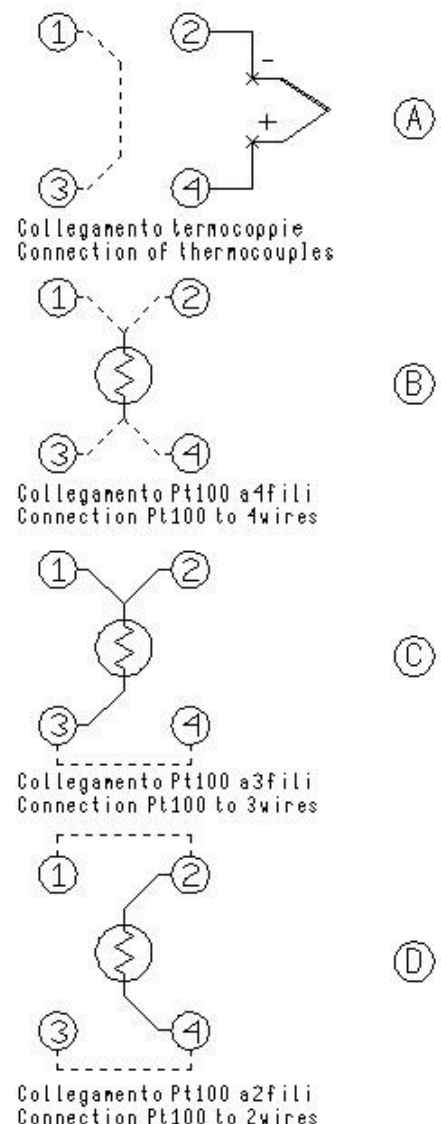

Fig. 6
- ◊ Thermocouple – connect the wires to the clamps 2-4 to make attention to the polarity; connect the clamps 1-3 as indicated. Reference to Fig. 6-A
- ◊ Pt100 to 4 wires – connect the clamps 1-2-3-4 as indicated in Fig. 6-B
- ◊ Pt100 to 3 wires – connect the wires to clamps 1-2-3; connect the clamps 3-4. Reference to Fig. 6-C
- ◊ Pt100 to 2 wires – connect the wires to clamps 2-4; connect the clamps 1-2 & 3-4. In case of two wires connections remembers to us shortest wires possible. Refer to Fig. 6-D